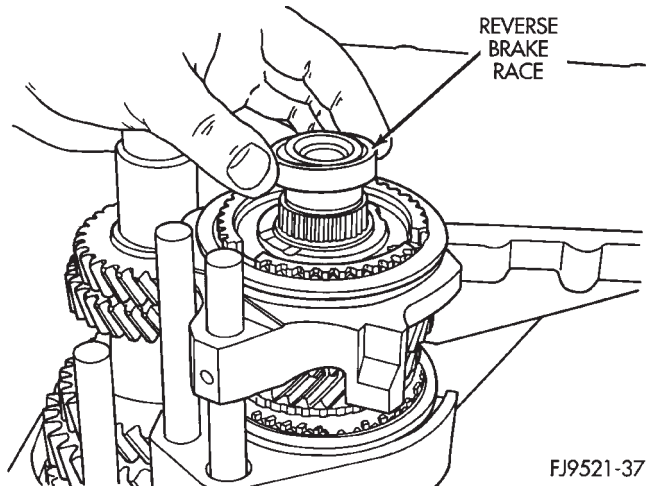

Fig. 69 Reverse Brake Race Installation
(4) Install reverse brake race onto input shaft (Fig. 69).